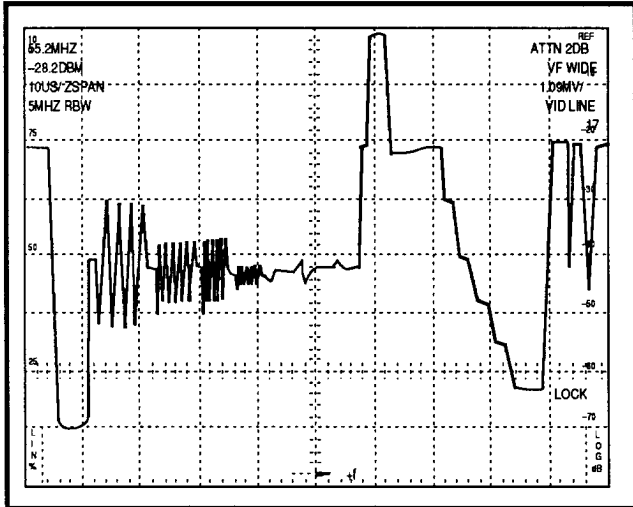

Figure 3-9. Test signal on video line 17.
- t. Check that the spectrum analyzer displays the test waveform shown in Figure 3-9. The test signal amplitude may be different.